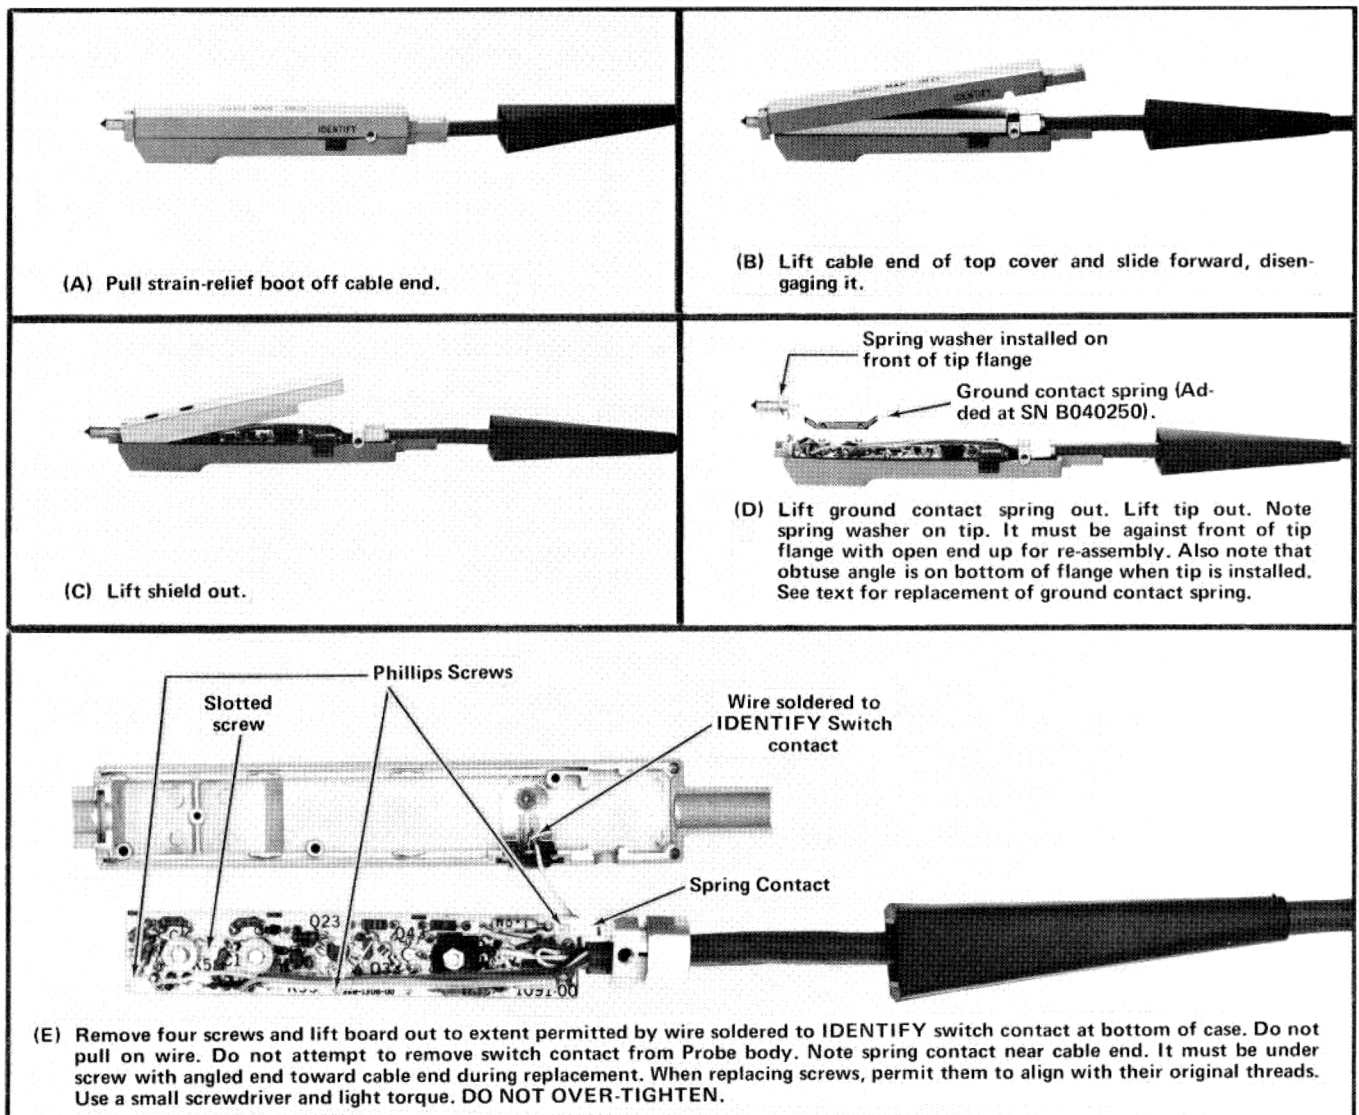
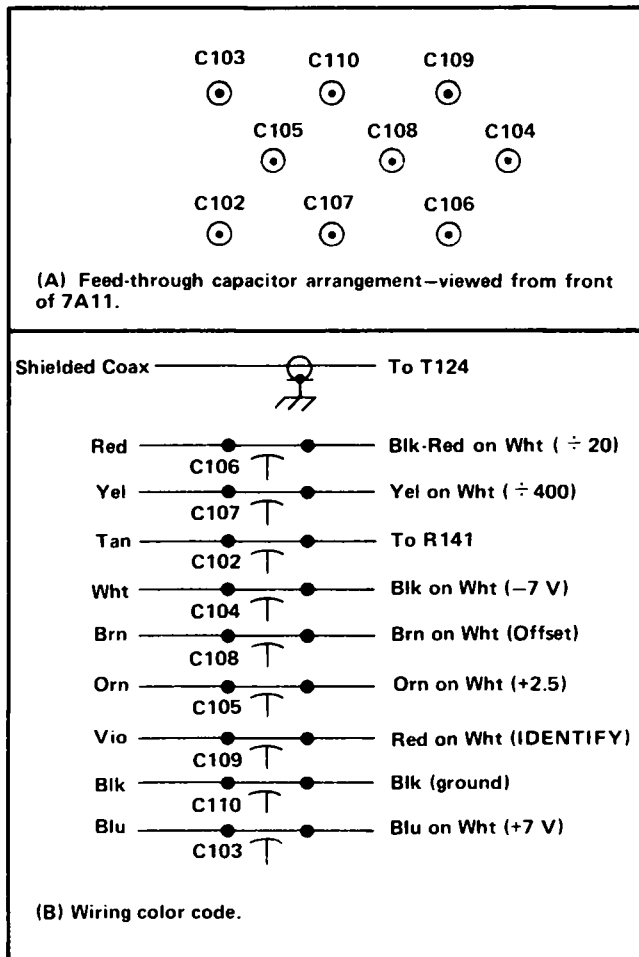

Fig. 4-4. Probe dis-assembly. Reverse the procedure for re-assembly.
Fig. 4-5. Probe cable connections within Plug-In Unit.
Probe disassembly and assembly instructions are provided in Fig. 4-4. Component locations and wire connections appear in Fig. 4-5 and 4-7. Because of size, voltage requirements and frequency requirements, it is recommended that Probe repairs be referred to a Tektronix Repair Center. When repairs are made, the following precautions must be observed regarding the Probe:
(4) Soldering on the board must be done quickly and neatly, using a 15 watt iron, a 3/64 inch nickel-plated tip, and common electrical solder. One exception to this is when soldering the Cable Tiedown Strap in place. Then a 40 watt iron with a 3/16 inch tip should be used. Heat the iron thoroughly; then solder quickly to avoid damage to either the board or the cable dielectric material. All solder connections should be checked under a magnifying glass, looking for poor connections, short circuits and damaged components.
(5) Water-soluble detergents, ethyl alcohol, methyl alcohol, or isopropyl alcohol are recommended for cleaning the board, if cleaning is necessary. Other materials may damage the circuit board and should not be used.
(6) During re-assembly, install the spring washer and spring contact in place properly, as noted in Fig. 4-4.
(7) When screws are re-installed, they should be threaded into the original female threads. Excessive tightening of the screws should be avoided. Use a screwdriver which has a small diameter handle, and use very light torque.